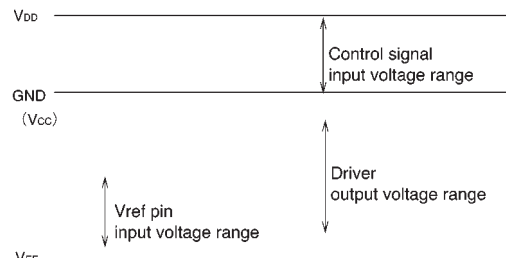

Fig. 2 Pin potential levels
- 3) Fig. 2 shows each pin's potential level.